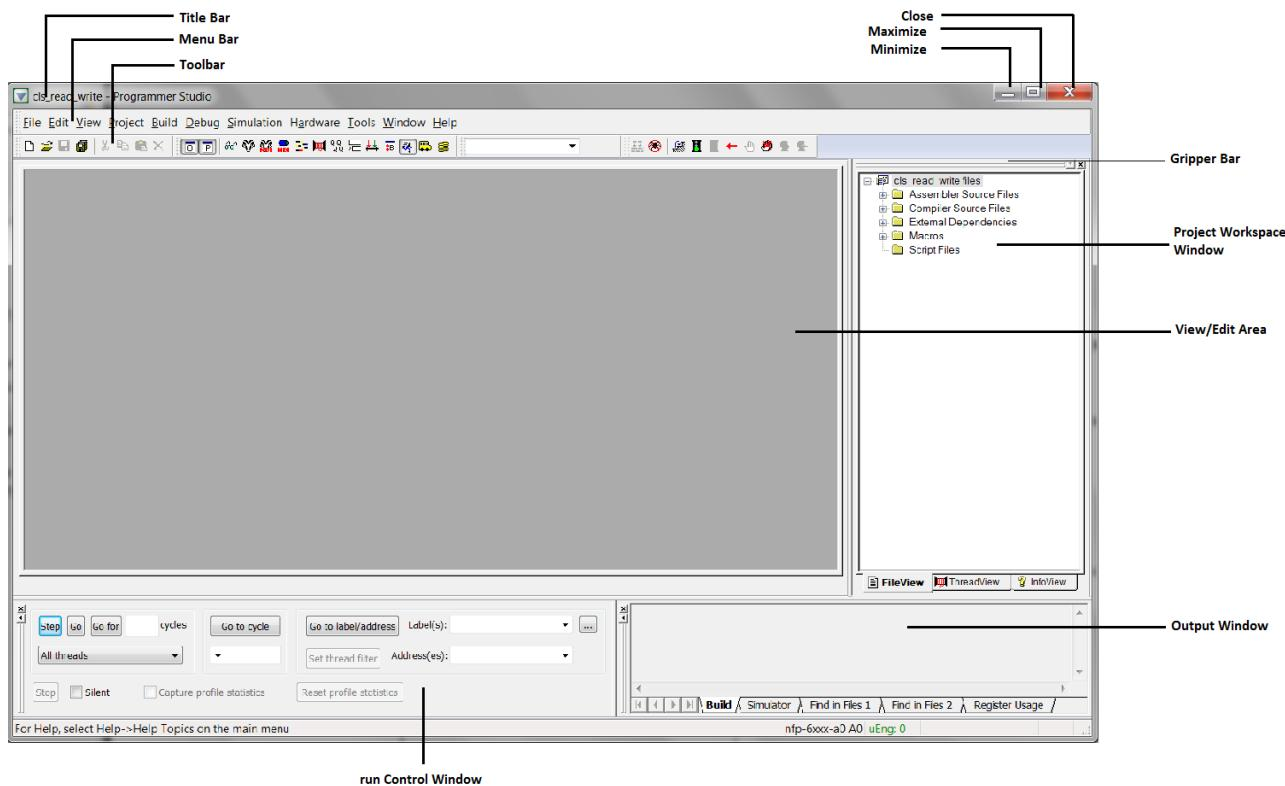

Figure 2.1. The Programmer Studio GUI
- In the **Project Workspace** window (see Figure 2.1), click the **InfoView** tab. This give you access to documentation installed along with the Software Development Kit (SDK). See Section 2.4.3.
The Programmer Studio GUI (Figure 2.1) conforms to the standard Windows look and feel. You can do the following:
To float, or undock, a window or toolbar, double-click its gripper bar (see Figure 2.1). To restore it to its previously docked location, double-click its title bar. You can also drag the window to a new docking location.
Workbook Mode This control puts the tabs at the bottom of the view/edit area (see Figure 2.1). Without the tabs you must use other methods to select different windows, such as going to the Window menu and selecting the window; cascading the windows using the button and selecting with the mouse pointer; or pressing **CTRL+F6** to switch from one window to the next. Removing the tabs gives you more workspace in the windows.
Output Windows Output window displays the results of Find in Files, assembly and compile results, build results and other messages (see Figure 2.1).